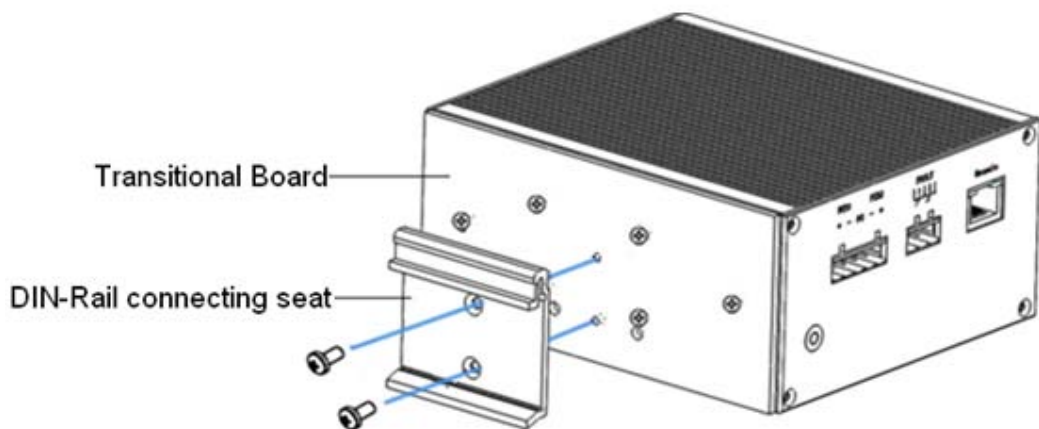

Figure 9 Mounting the DIN-Rail Connecting Seat
Step 2: Align the two holes of the DIN-Rail connecting seat in the rear panel with corresponding holes of the transitional board, and then use two screws (M3×8) to fix the transitional board, as shown in Figure 9.